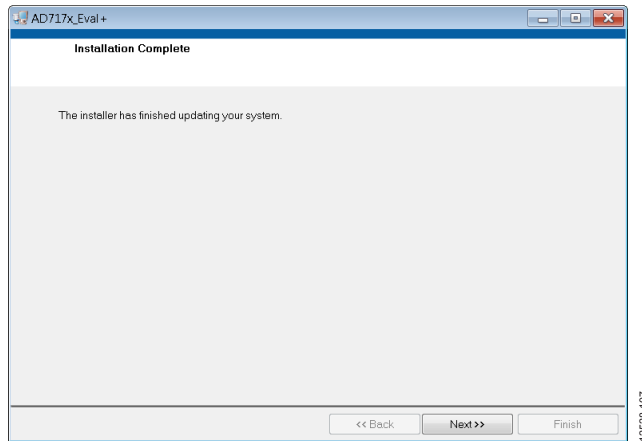

Figure 7. **AD717x Eval+** Installation Complete
- The message in Figure 7 appears when the installation is complete.